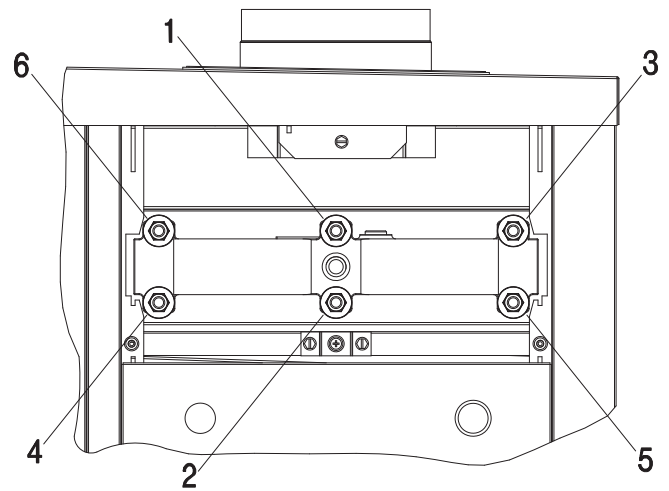

Fig. 8: Torque Sequence
13. Slowly tighten the flange nuts, starting from the center nut (number 1) in Fig. 8 and working sequentially around the header as indicated. Torque all nuts to 25 ft/lb. **DO NOT OVER-TIGHTEN.**